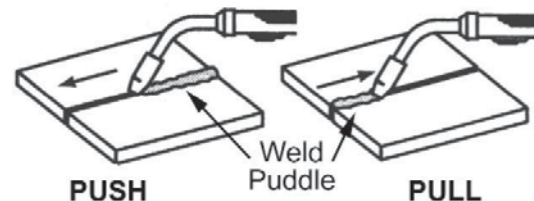

Figure 11. Travel Direction
1. TRAVEL DIRECTION is the direction the gun is moved along the weld joint in relation to the weld puddle. The gun is either **PUSHED** (see Figure 11) into the weld puddle or **PULLED** away from the weld puddle.